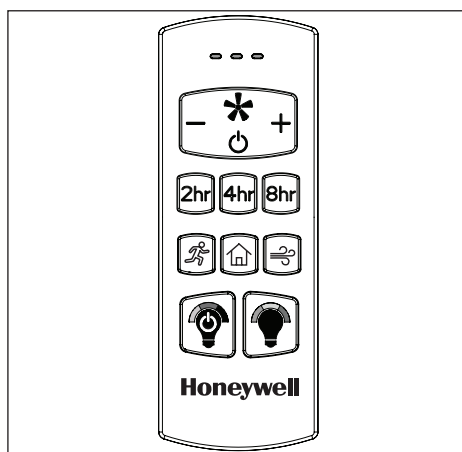

Figure 5.2
2. To operate the fan using the remote, press and release the following buttons (Figure 5.2):